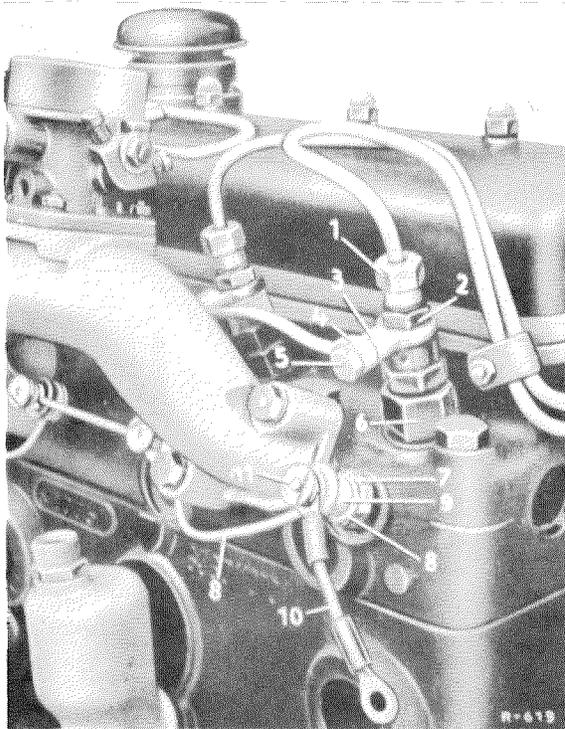

Figure 15-31/1
2. Also unscrew the other knurled nuts, remove the connection insulators (9) and the bus rails (8) (see Figure 15-31/1).